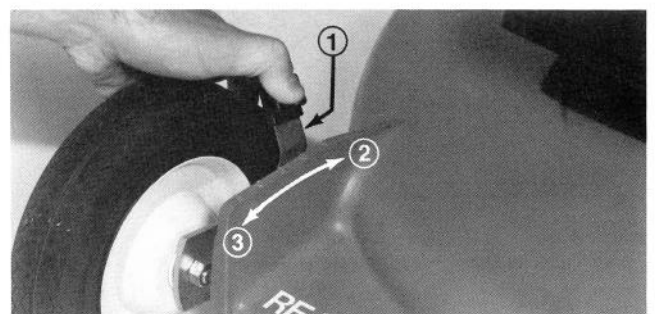

Figure 9
Height-of-Cut Adjusters (Fig. 9) — The height-of-cut adjuster controls the height of the mower for cutting.
The height-of-cut is adjustable from approximately 25 mm to 76 mm, in 13 mm increments, and letters cast into the housing represent each graduated increment (Fig. 9).
2. Place thumb against height-of-cut adjuster and press on outside of wheel (Fig. 9).